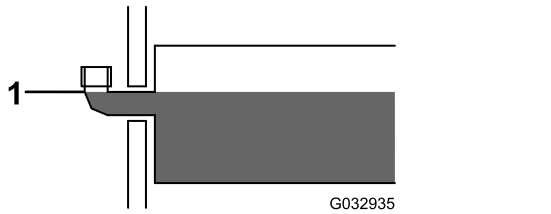

Figure 25
3. Remove the fill cap from the hydraulic reservoir (Figure 25).
4. Slowly fill the reservoir with BOSS high-performance hydraulic fluid to the bottom of the fill elbow (Figure 25).